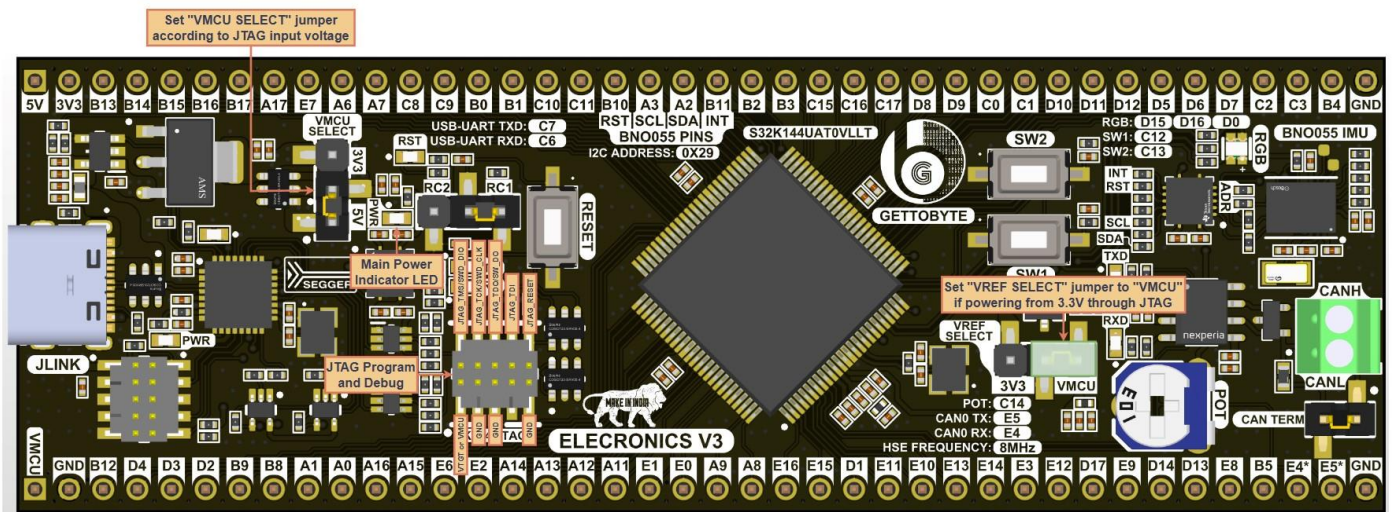

Fig 6 : Powering through JTAG Connector
- The “PWR” LED is mentioned in Fig 6. indicates that power is being received by the Electronics V3.